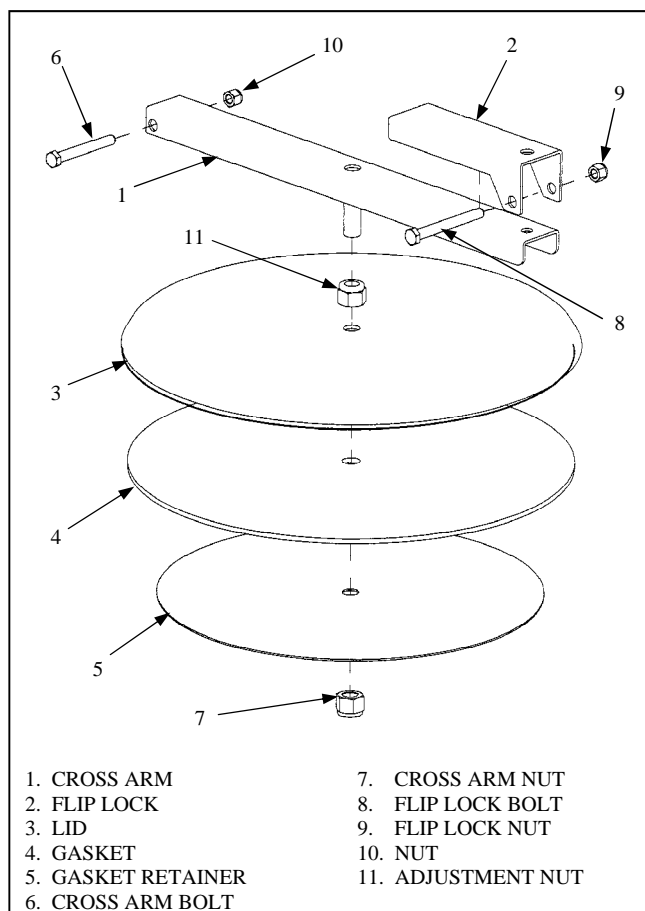

Figure 5-8. Manway Assembly
- c. Remove bolts (7) and nuts (8) to detach control valve (2) from body (1).
- d. Remove fittings (5), (6), and (4) and pneumatic muffler (3) as needed.
- e. Remove retainer clip (14) to remove float rod (12) from body (1).
- f. Un-thread float rod (12) from float (13). Use caution not to damage float by puncturing it during maintenance activities.
5.3.6 **Manway Assembly.** The manway assembly is located on the top of the tank. The manway assembly has one adjustment point, see Paragraph 5.3.6.2 for adjustment steps. Use Figure 5-8 for the following maintenance steps.